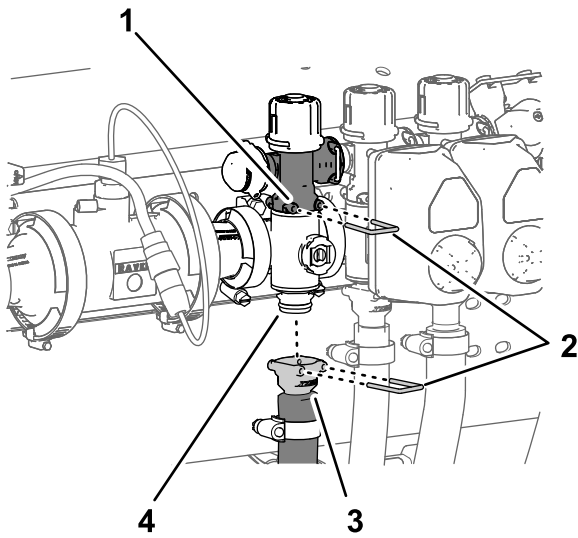

Figure 114
3. Assemble the quick-connect fitting of the section-valve manifold to the quick-disconnect socket of the section-bypass valve with a quick-connect pin (Figure 113 and Figure 114).
8. Assemble the quick-connect coupler of the section hose onto the quick-connect fitting of the section-valve manifold with the quick-connect pin (Figure 114).